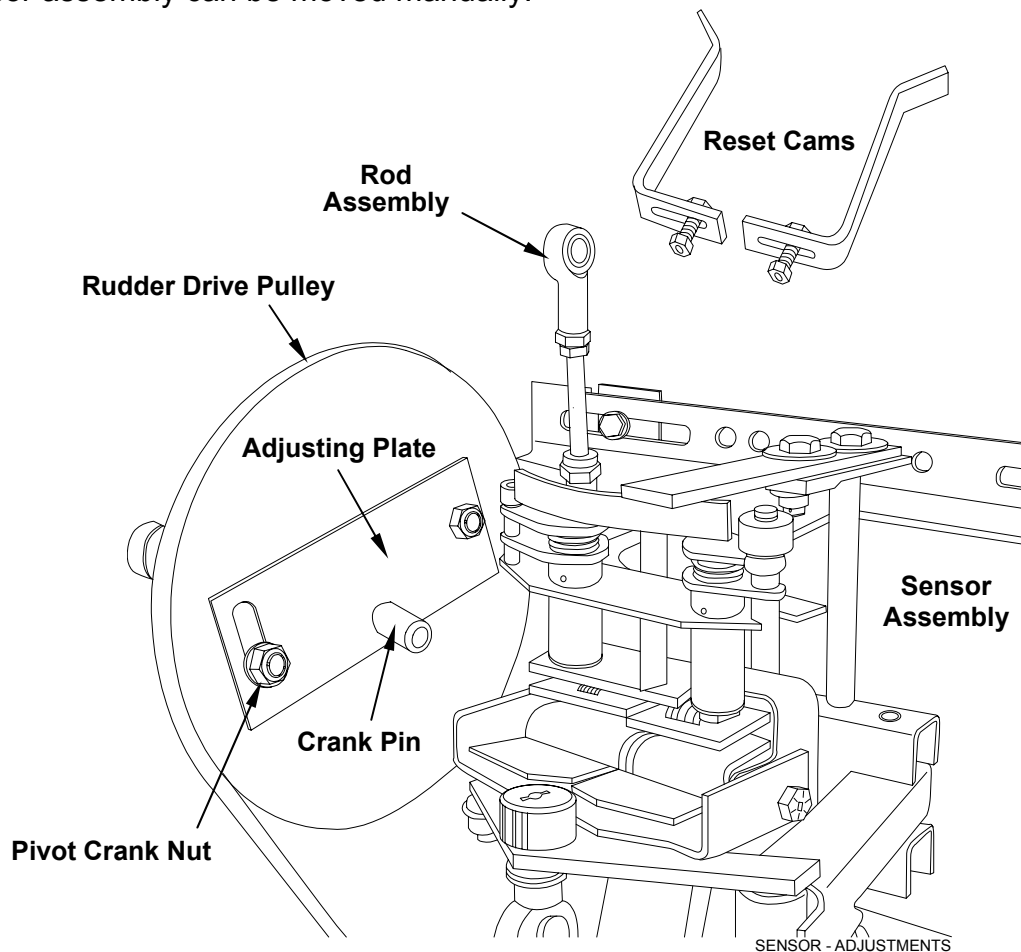

Figure 2-6
1. Remove the retaining nut from the crank pin and save (see Figure 2-6).